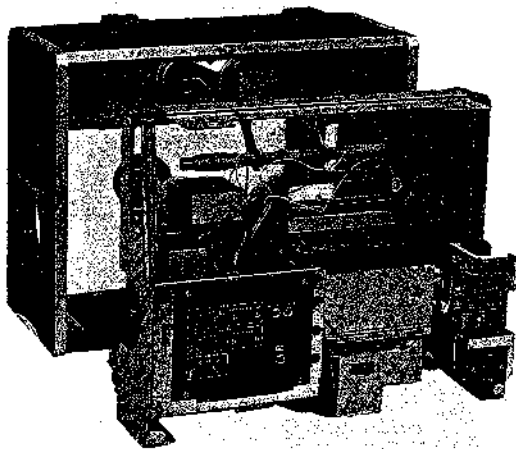

Fig. 2-6
11. Now, the chassis is removable as shown in Fig. 2-6.